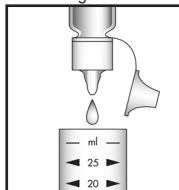

Figure 2
3. Shake the S-3801 Activator Solution, then add 5 drops to the sample cup (fig. 2). Stir to mix the contents of the cup.